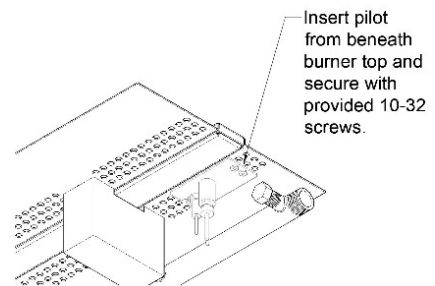

FIGURE 62
11. Insert the pilot assembly from underneath the existing burner pan to the area of the removed burner section. **Figure 62**